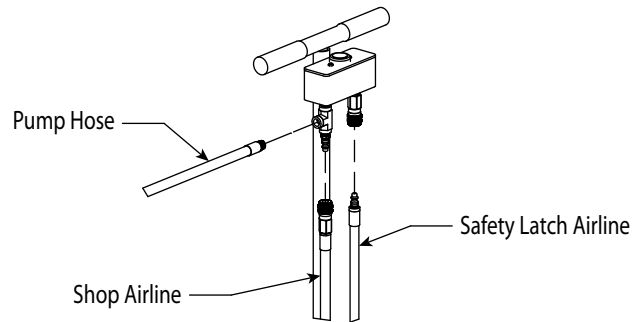

Figure 3
4. Connect the Safety Latch airline from the lift to the quick disconnect on the Air Valve Assembly on the side opposite the Air Valve Tee (see Figure 3).
6. Connect the shop airline to the open quick disconnect on the Air (see Figure 3).